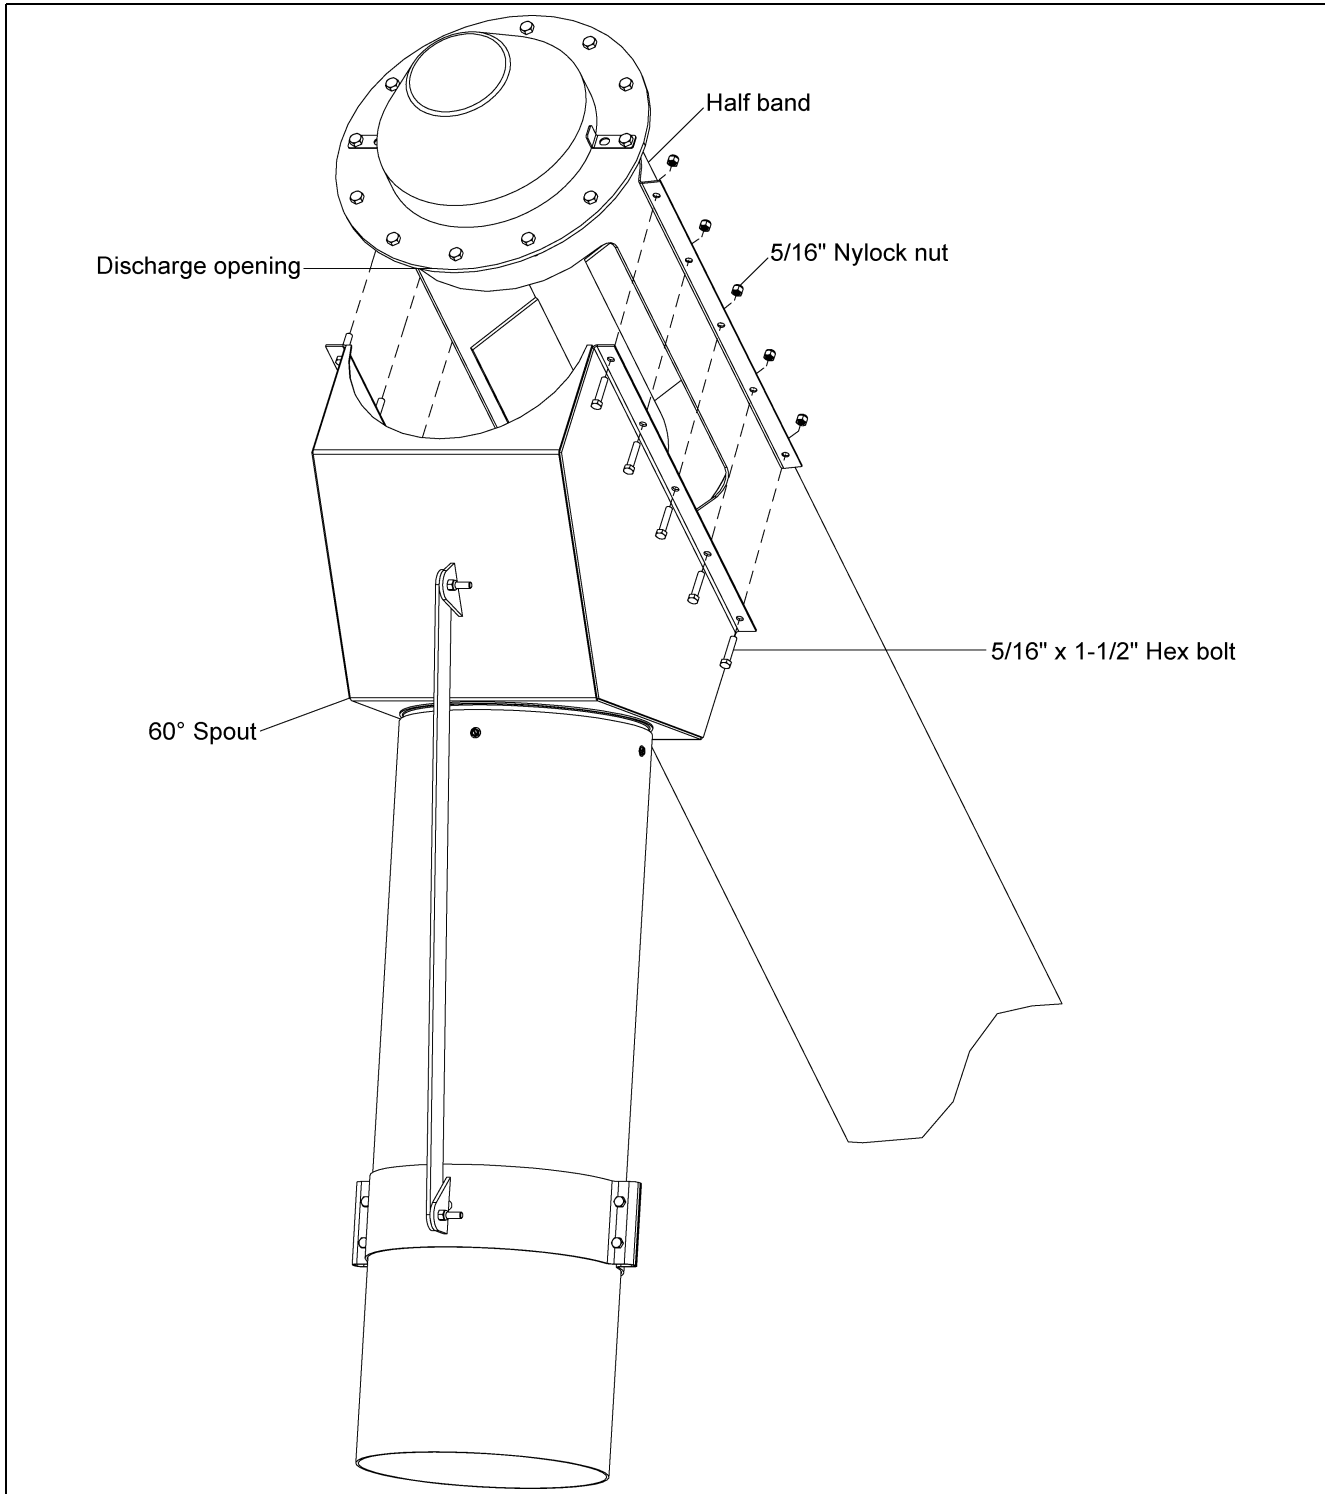

Figure 3B
- B. Attach the 60° spout over the discharge opening on the vertical tube. Secure the half band and spout with $5/16"$ x $1-1/2"$ hex bolts and nylock nuts. (See Figure 3B.)
- C. Attach the half band and the mounting bracket pivot band $56-1/2"$ below the bottom of the spout, $1/3^{\text{rd}}$ of the tube length, using four (4) $3/8"$ x $1-1/2"$ hex bolts and $3/8"$ nylock nuts.